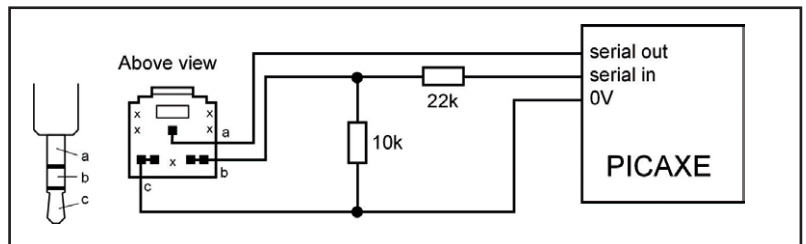

Figure 5. Download circuit.
the Revolution Education store), take care to use no more than three 1.5 V AA batteries or four 1.2 V AA rechargeable batteries. The download circuit according to **Figure 5** is connected to the serial in, serial out and 0 V pins on the PICAXE. The LED is connected in series with a 330 Ω resistor from pin 3 to ground. When the download cable is not connected to a homemade circuit, the serial in pin (2) must be pulled low by tying it to 0V with a 33k resistor.